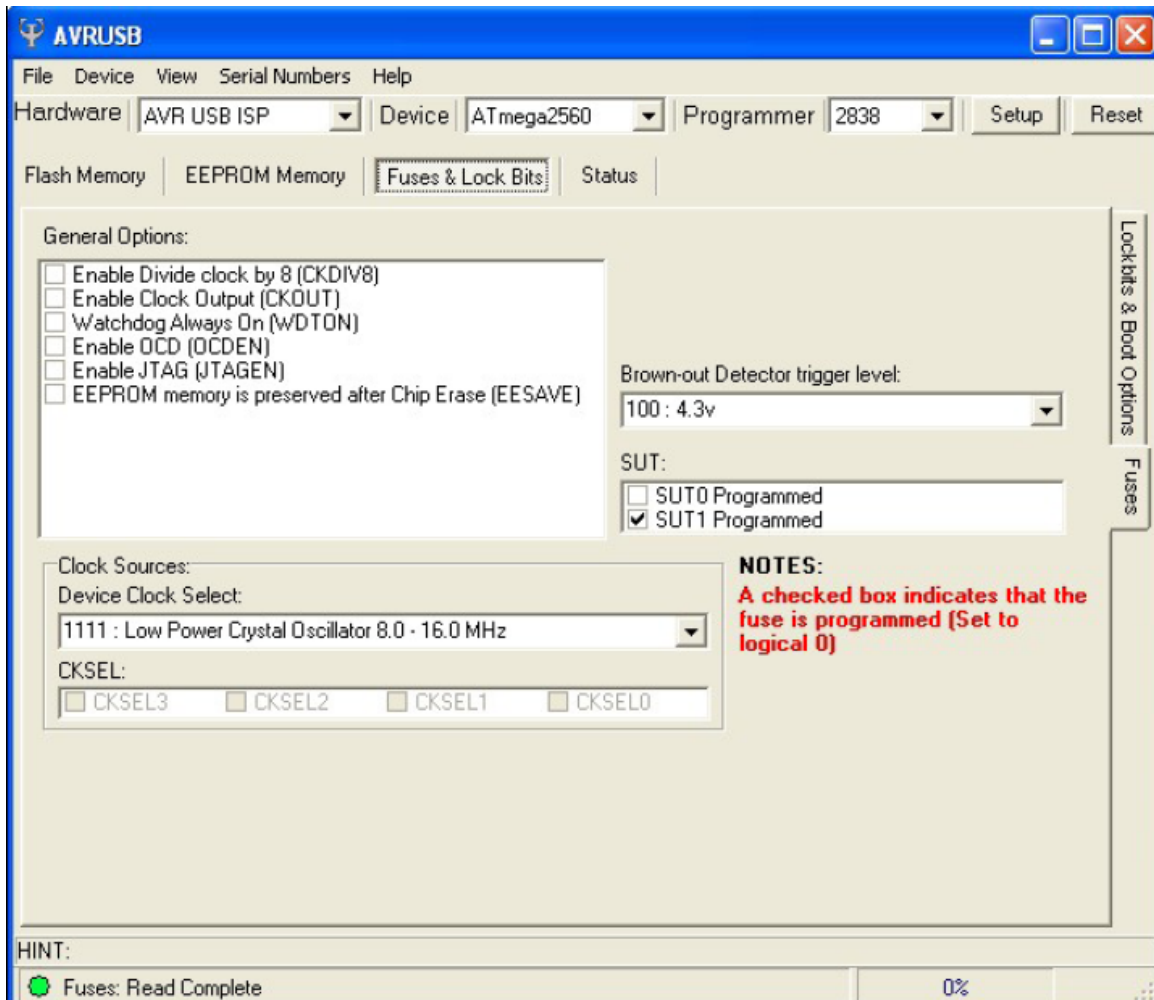

Figure 10
9. The Fuses and Lock Bits screen will open after it reads the fuses of the indicator. The correct settings are shown in Figure 10.
**IMPORTANT! Ensure that the values read match the values shown in Figure 10. If necessary, change the values that do not match.**